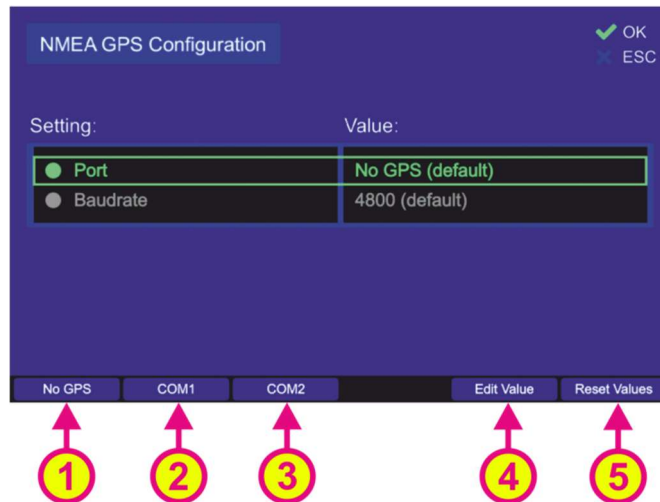
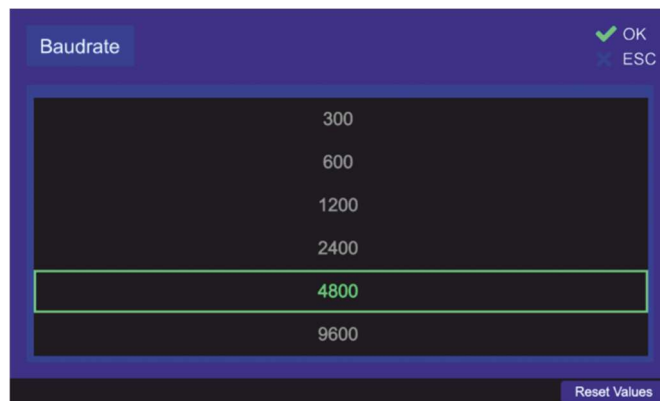

Figure 159. NMEA GPS configuration settings
Figure 161. Changing the NMEA GPS baud rate setting
Following sub-menu will appear (s. Figure 159).
- Pressing the hotkey “Reset Values” (s. Figure 159, position 5) will set all menu items to default values.
- To change the baud rate, press the hotkey “Edit Value” while the menu item “Baudrate” is marked (s. Figure 159). The corresponding sub-dialog will be opened (s. Figure 161).